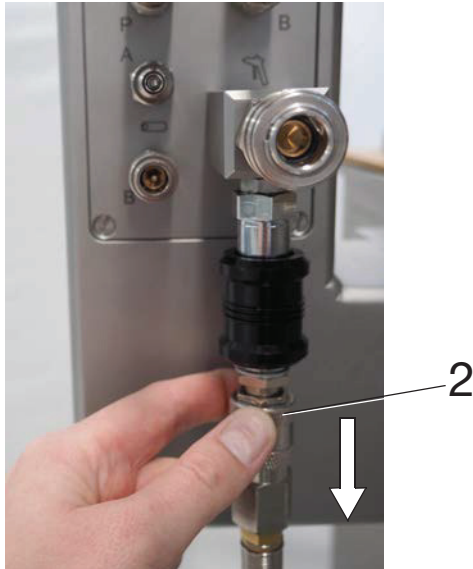

Fig. 5-3 2 Ring on the air release valve
- Push and hold the compressed air hose in the direction of flow while pushing the ring on the air release valve (2, Fig. 5-3) against the direction of flow and remove the hose.